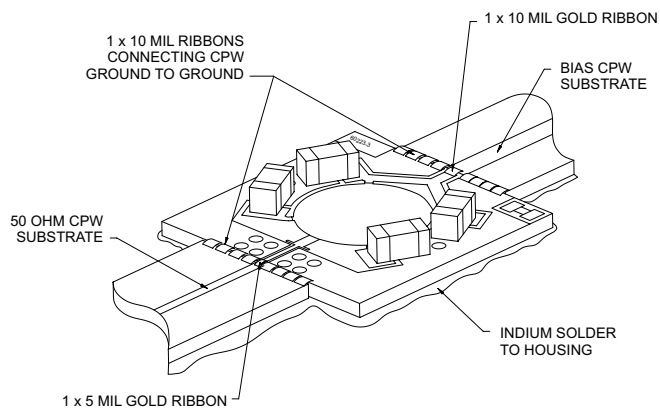

Figure 5. DBT60CPW Bias Termination
- For the DBT60CPW, you may optionally connect the grounds together as shown in Figure 5, using 1x10 mil ribbons.